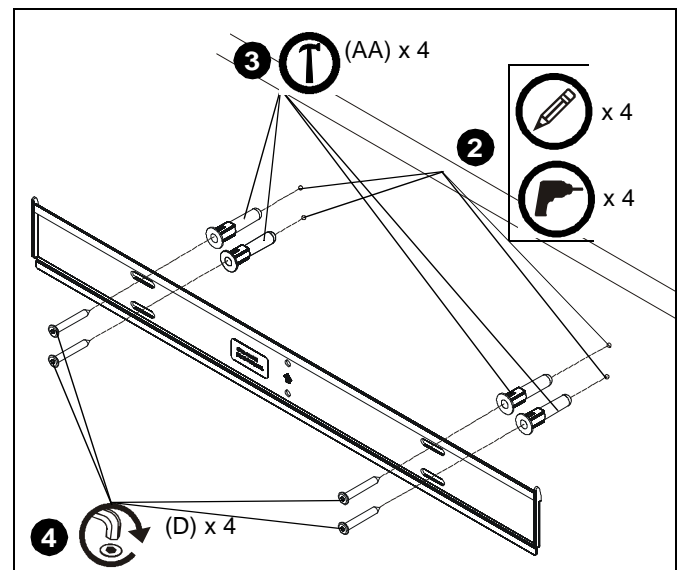

Figure 3
2. Using wall plate as a template, mark and then drill four 5/16" diameter pilot holes through mounting surface. Use level to make sure wall plate is perfectly horizontal. Holes must be drilled at least 2-1/4" deep. (See Figure 3)
3. Install four anchors (AA) into pilot holes drilled in Step 2. Use a hammer to tap anchors into holes. (See Figure 3)
4. Install four connector screws (D) through wall plate holes and into anchors. (See Figure 3)